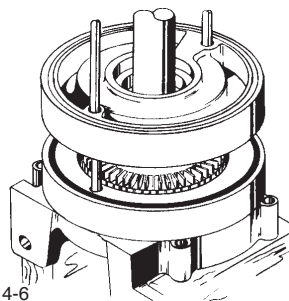

Figure 4-6
- Slide a right hand channel ring (#9) onto the guide rods with the water channel facing downward, toward the impeller.(refer to figure 4-6) The small outlet opening should be in the "one o'clock" position. This completes one stage; a stage